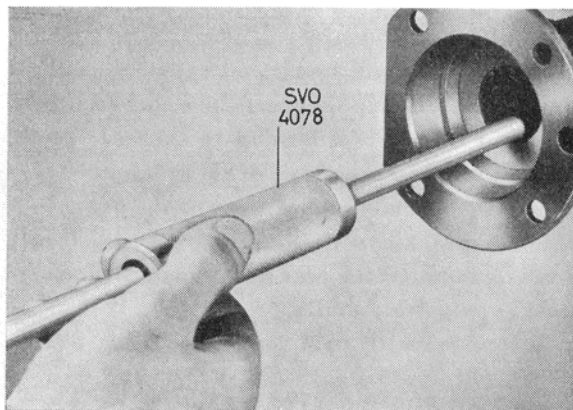

Fig. 4. Removing the seal ring.
3. Pull out the seal ring by using tool SVO 4078 (fig. 4).